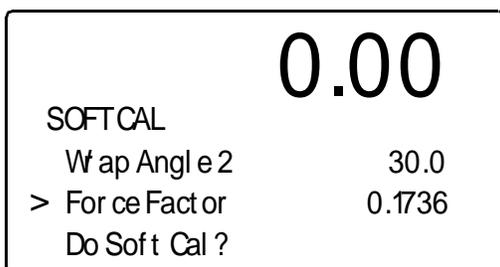

FIG. 2-26 SOFT CALIBRATION/ENTERING FORCE FACTOR
- Step 18. Press on the “-” button until the cursor is in front of “Force Factor”. (See Fig. 2-26)